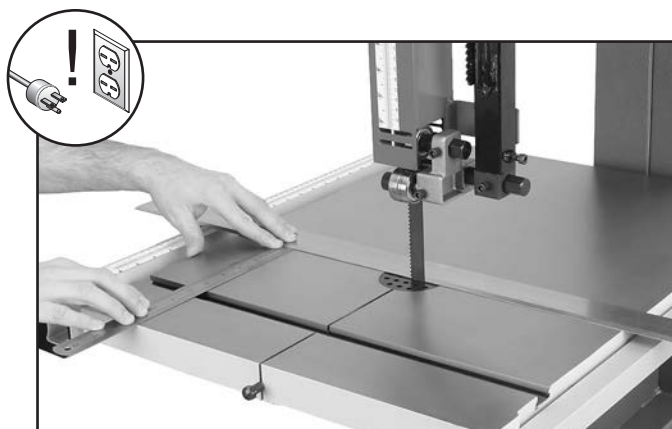

Figure 56. Measuring for miter slot to be parallel with blade.
5. Use a fine ruler to gauge the distance between the straightedge and the miter slot. The distance you measure should be the same at the front and the back of the table (see **Figure 56**).